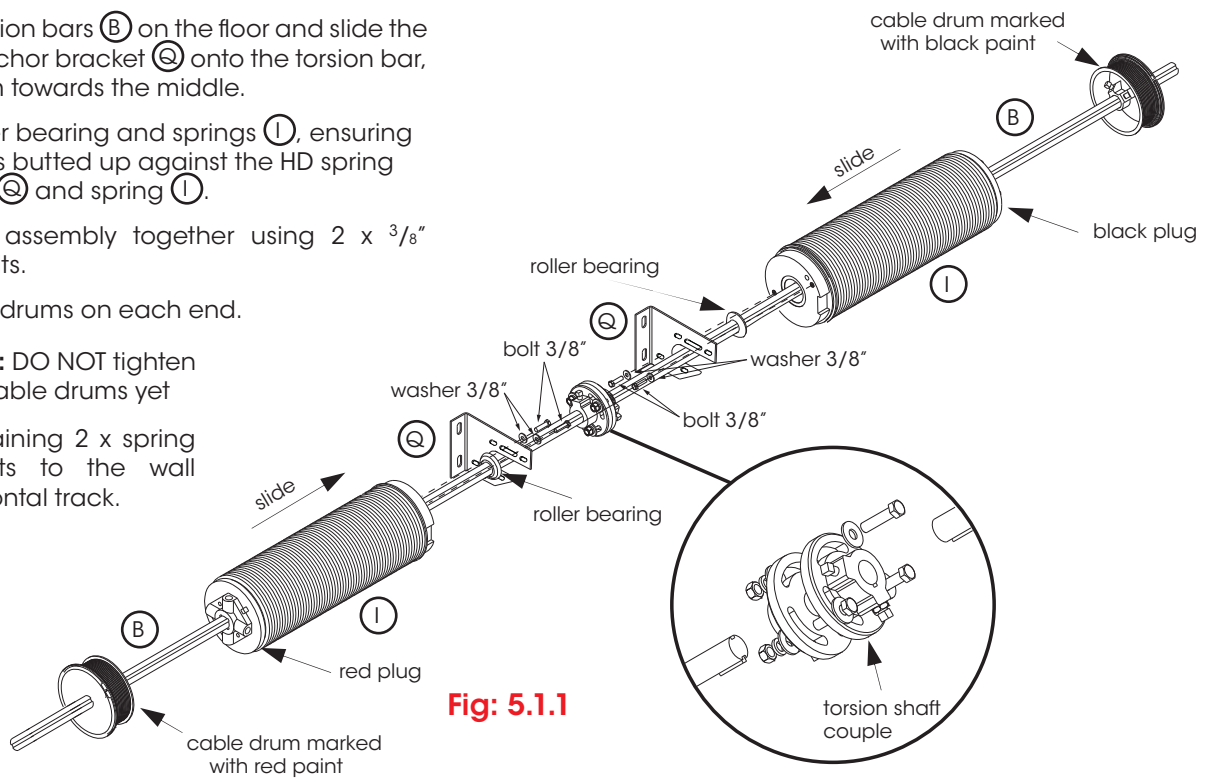

Fig. 5.1.1
The springs and drums for the counterbalance system are now colour coded to easily identify which side of the centre bracket the spring is placed. Fig. 5.1.1.
- Position the torsion shaft couple in the middle as shown in Fig 5.1.1, the axles should be flush with each couple allowing free rotation to occur.